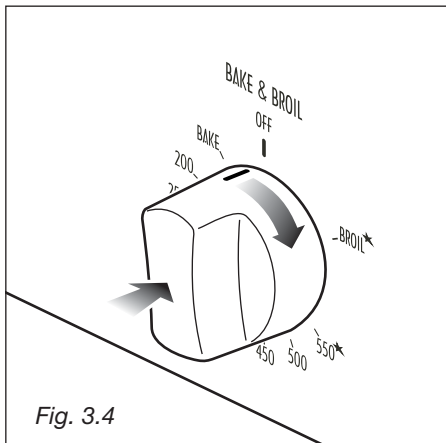

Fig. 3.4
- 2) Lightly press and turn the thermostat knob clockwise to the **BROIL*** position (fig. 3.4).